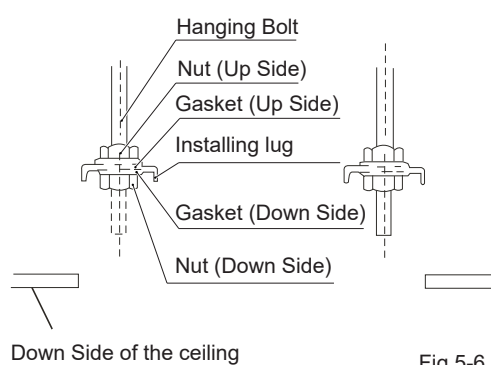

Fig.5-6
1. Adjust the nut's site, the interval between the gasket (Down Side) and the ceiling should be adjusted according to actual construction circumstances. See Fig.5-6.